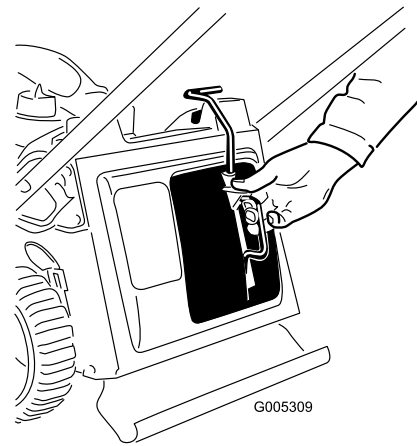

Figure 26
1. Remove the mulch plug (Figure 26).